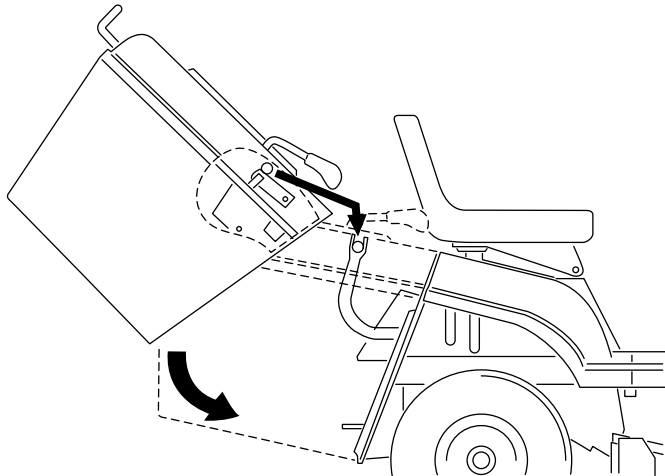

Figure 34
1. Use 2 hands to tip the grass collector forward (Figure 34).
2. Tip the collector forward approximately 40 degrees and slide it onto the 2 support brackets at the rear of the machine (Figure 34).